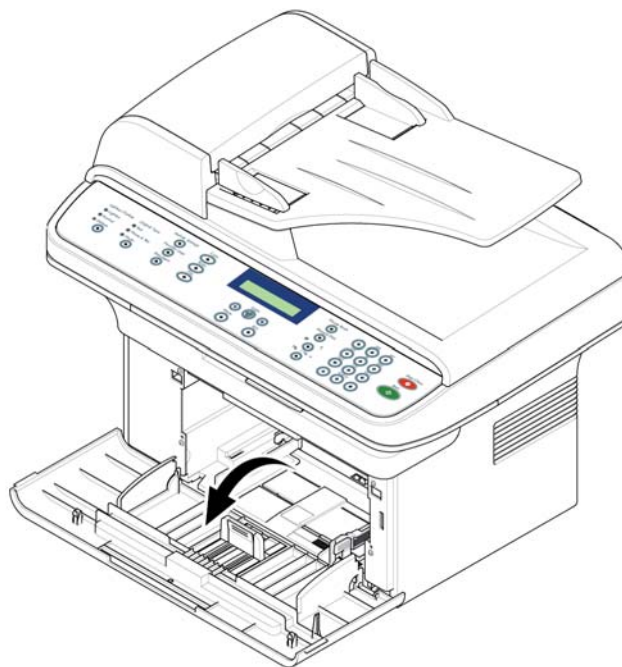

Figure 1
1. Open the front cover, Figure 1.